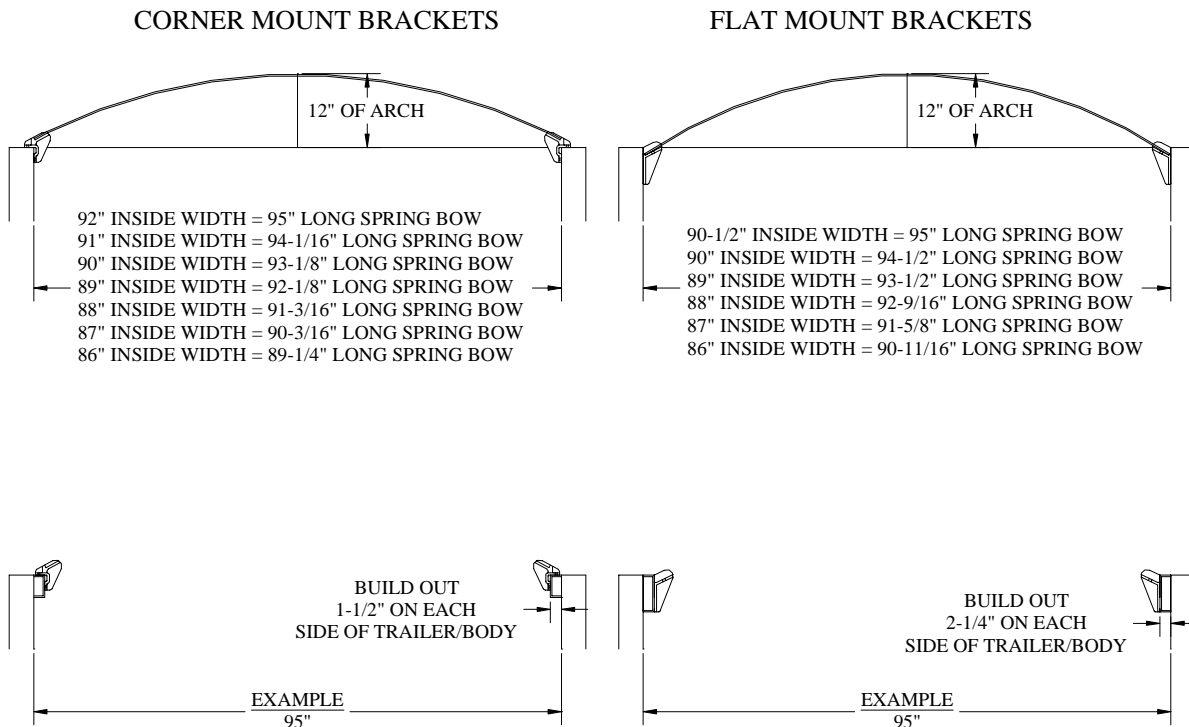

Figure 1.
**For Corner Brackets:** If your body/trailer exceeds 92” inside width, you will have to fabricate mounts to bring the inside width down to at least 92”. Refer to figure 1 below. If your body/trailer does not exceed 92” inside, the spring bows are cut to the proper length based upon the required measurements given to Roll-Rite Corp. by the customer.
**For Flat Brackets:** If your body/trailer exceeds 90-1/2” inside width, you will have to fabricate mounts to bring the inside width down to at least 90-1/2”. Refer to figure 1 below. If your body/trailer does not exceed 90-1/2” inside, the spring bows are cut to the proper length based upon the required measurements given to Roll-Rite Corp. by the customer.